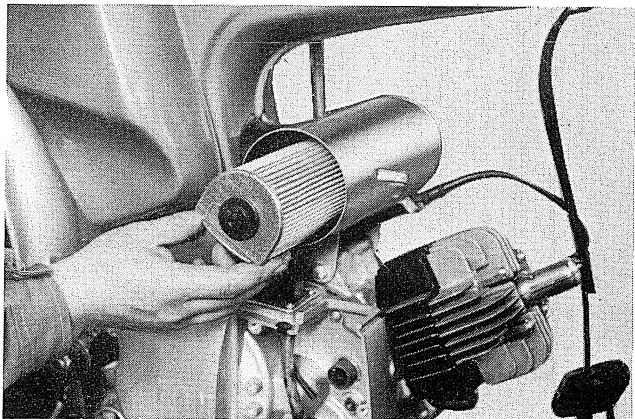

Fig. 3-1-17
14. Remove the air cleaner. (Fig. 3-1-17)